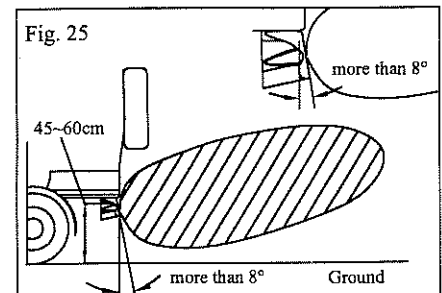

Fig. 25
3. Ensure that the bumper surface where the sensors are to be mounted is flat and horizontal. Otherwise the sensor brackets must be installed 8 degrees facing up from the ground. (Fig. 25)